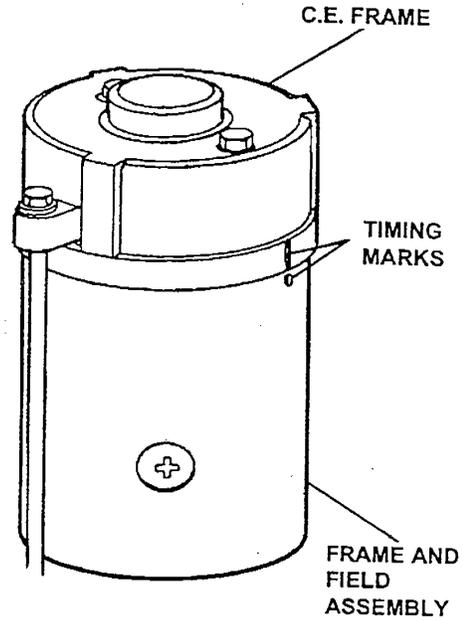

FIGURE 15. ALIGNING TIMING MARKS
8. Thru bolts (41).
- a. Install the thru bolts and tighten them by hand but do not close the gap between the C.E. frame and the frame and field assembly where the O-ring (20) goes.
- b. Roll the O-ring (20) back down into its installed position between the C.E. frame and the frame and field assembly.
- c. Align the timing ribs on the edge of the C.E. frame (14) with the timing spots on the frame and field assembly (A) to assure proper brush alignment. Refer to Figure 15. Marks are located in 2 places on the motor but will only match one way.
- d. Thru bolts (41) to 8.5 Nm (75 lb-in.).